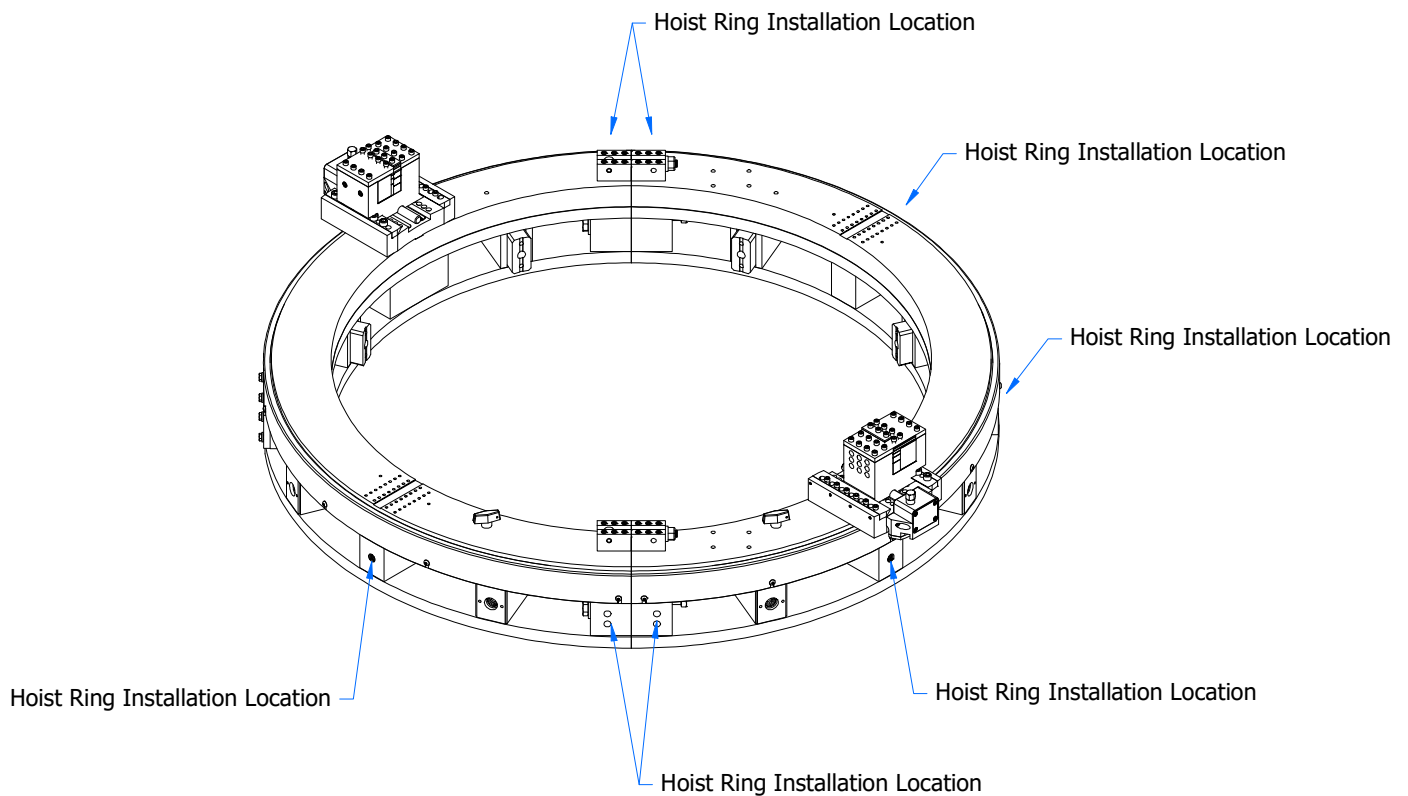

Figure 2-4 – Hoist Ring Locations
4. Lifting the clamshell halves can be done in several ways and should be planned for by a qualified rigging expert. The clamshell halves do have several rigging hole positions that can accept a 5/8-11 swivel eye bolt / hoist rings that are provided with the clamshell. See Figure 2-4 below for locations: